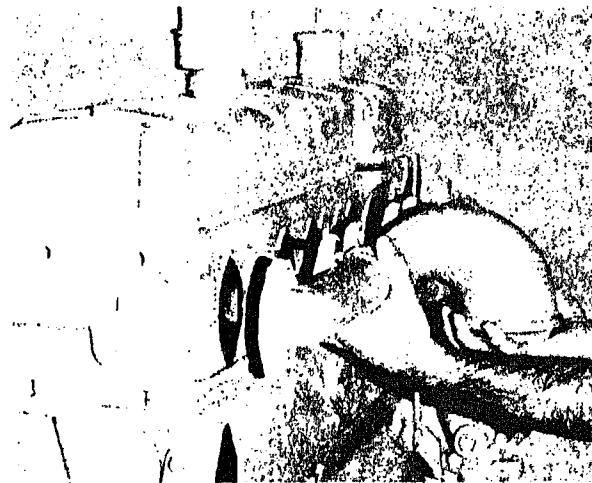

Fig. 0-26. Removing exhaust manifolds
2. Remove remaining capscrews and slide manifolds back off the engine, Fig. 0-26.